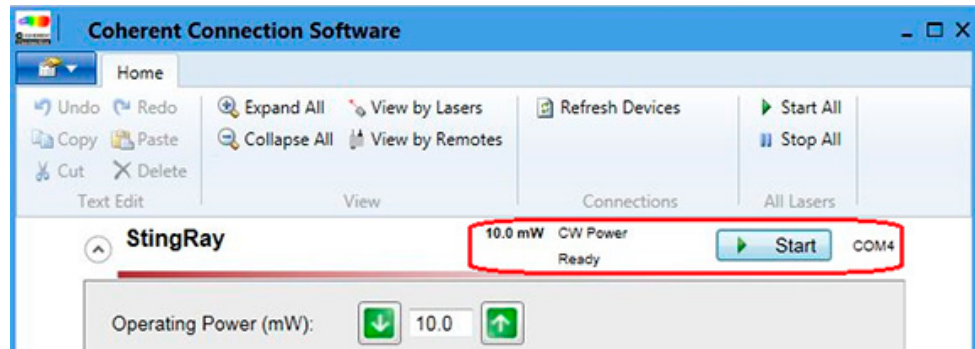

Figure 4-17. Example—CW Mode Emission
The example in Figure 4-17 shows a laser set up for Continuous Wave (CW) mode operation.